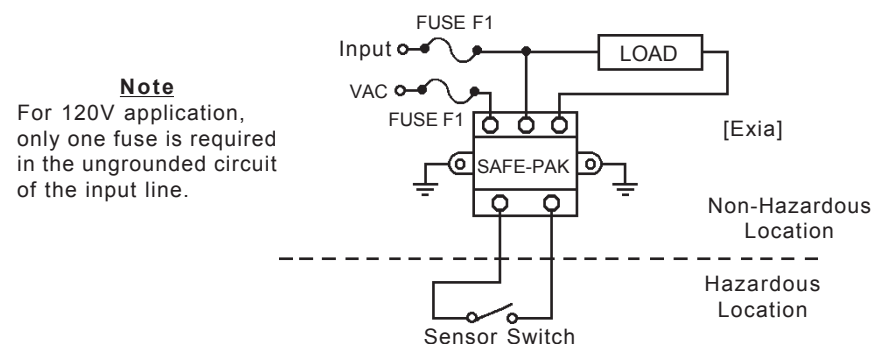
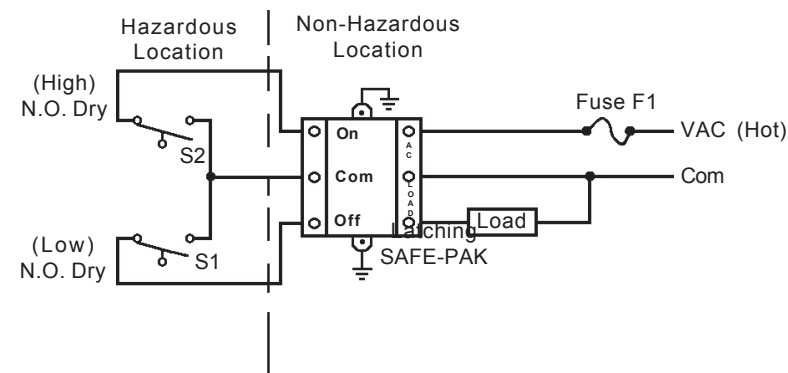

Fig. 2.
Fig. 3
1. Associated Equipment - Caution: The SAFE-PAK must be mounted outside the hazardous area. Only the switch or sensor terminals provide an intrinsically safe switch circuit (see Fig. 1, Fig. 2, Fig 3 or Fig. 4). [Exia] means associated equipment: "Appareillage connexe", located in safe area.